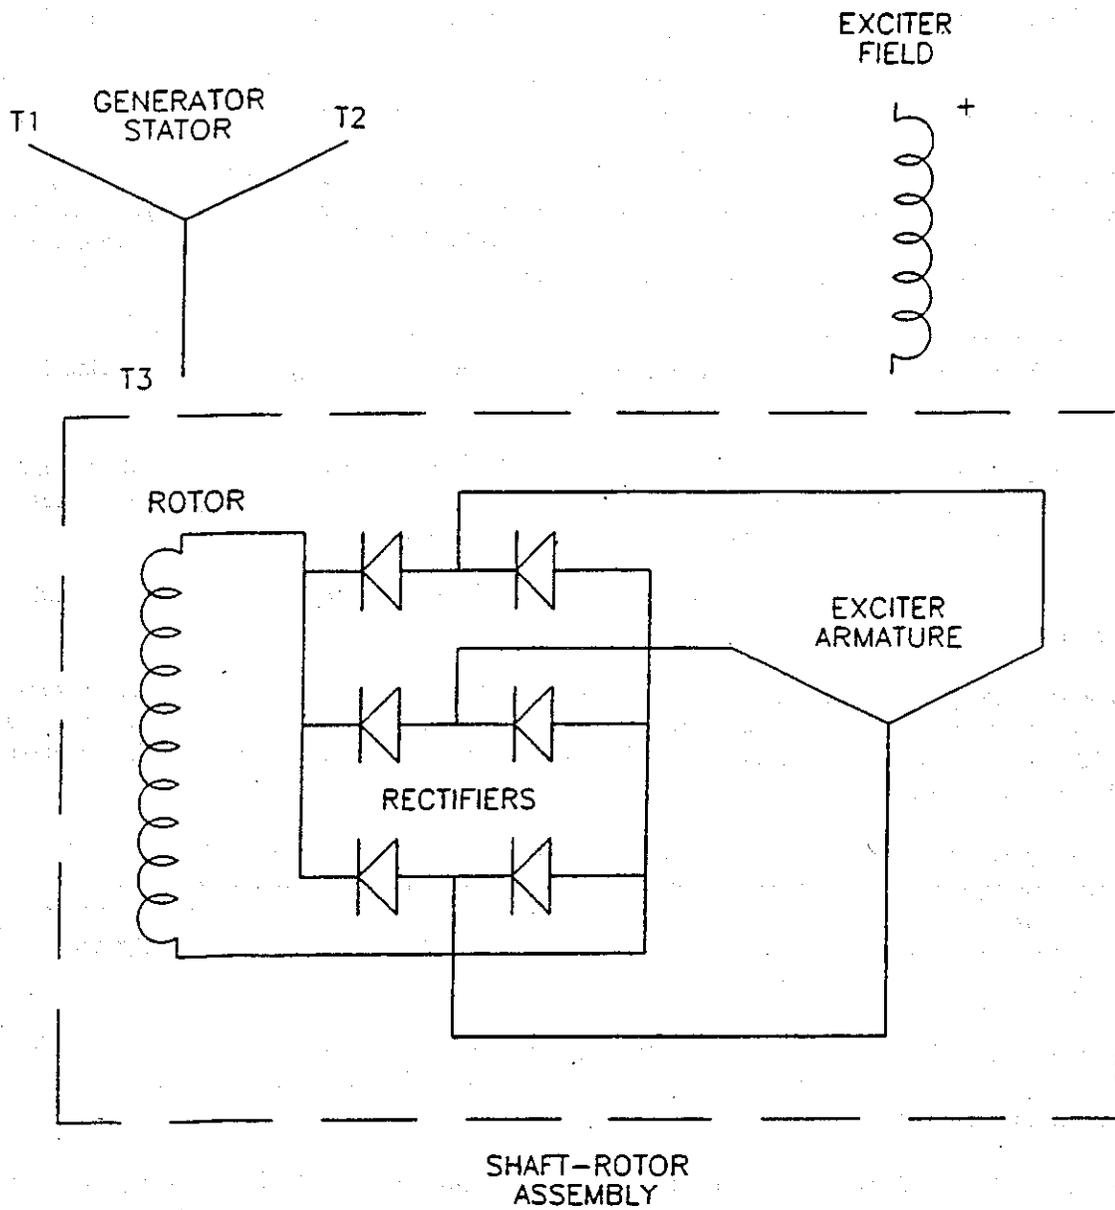

FIGURE 1-28. BRUSHLESS GENERATOR SCHEMATIC
1.16.12.1 **General.** Revolving field type generators have a DC field revolving within a stationary AC winding called the stator. See brushless generator schematic, Figure 1-28. AC power is distributed from the generator through leads connected to the stator windings. There are no sliding contacts between the AC winding and the load, therefore, great amounts of power may be drawn from this generator.